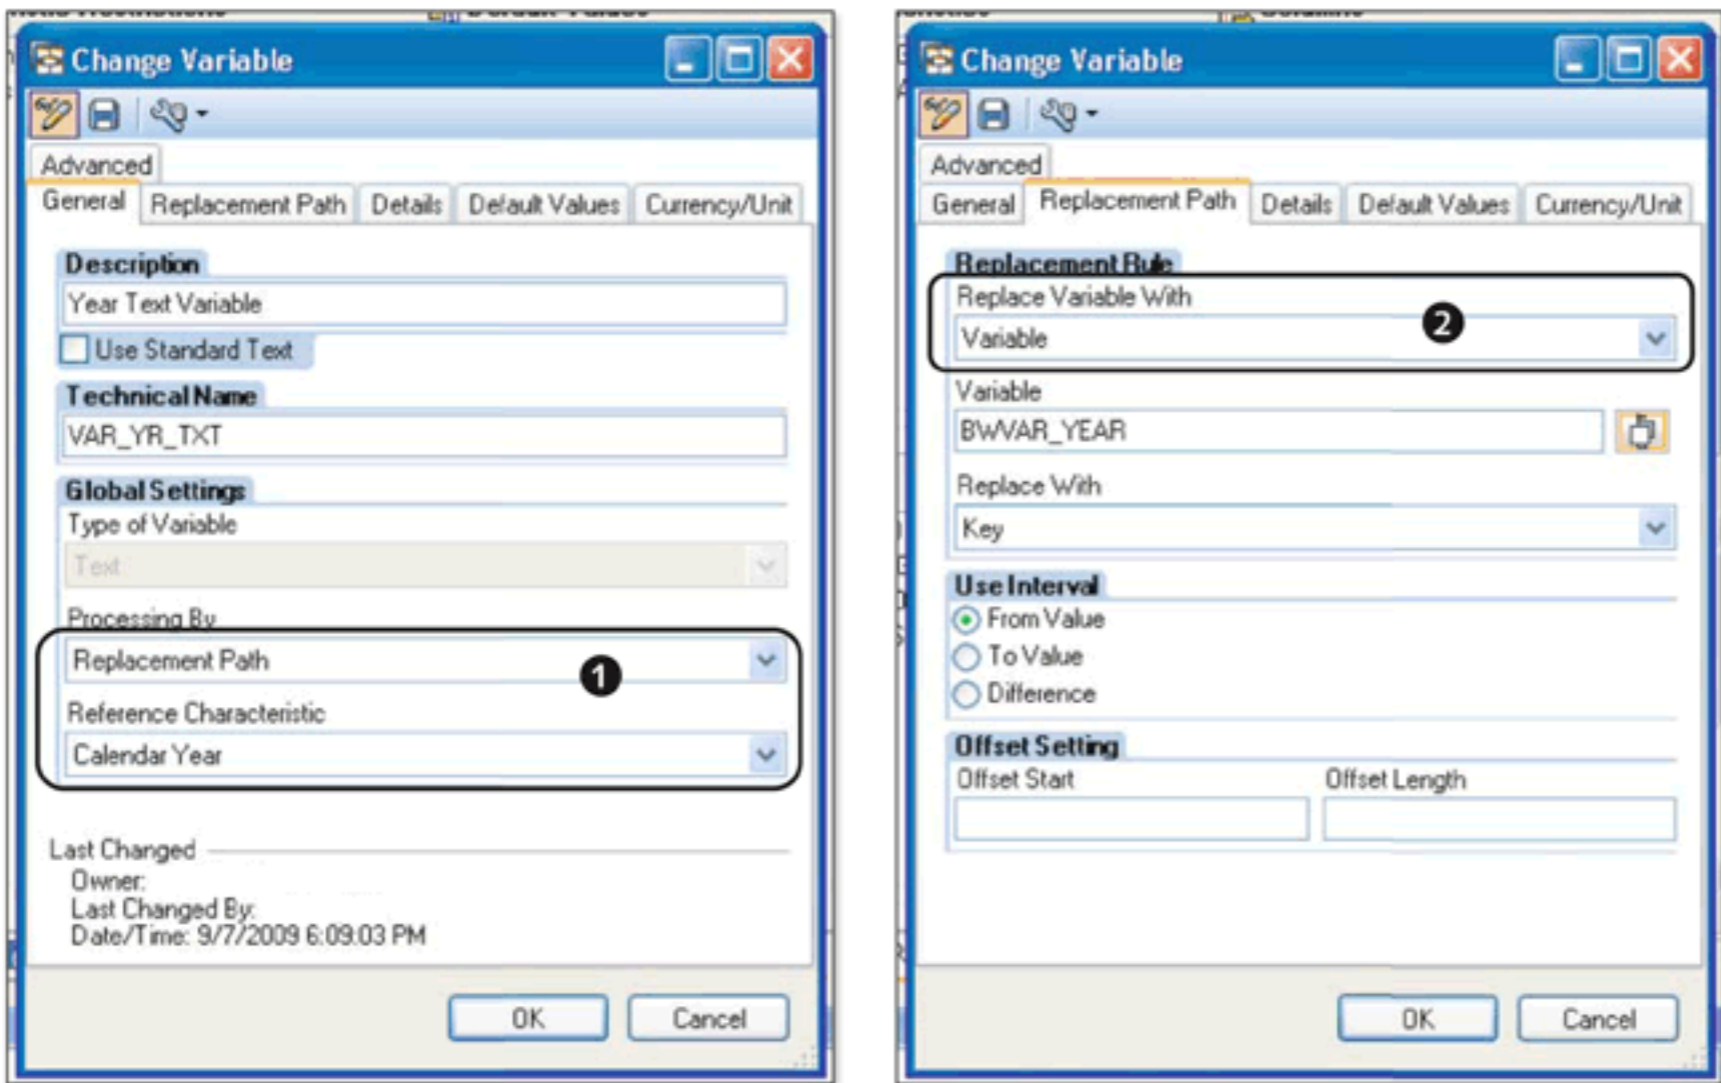

Figure 9.38 Define Text Variable
Let's take an example where you want the column description for the net value key figure to be dynamically populated with the year for which the query is executed. To achieve this, you have to set the processing type of the text variable as REPLACEMENT PATH and the reference characteristic as CALENDAR YEAR (see ❶ of Figure 9.38).
The details for this variable are maintained on the REPLACEMENT PATH tab. Maintain the settings as shown in Figure 9.38. Note that, in this example, we're replacing the text variable with the value of CALENDAR YEAR entered in another characteristic variable (❷).